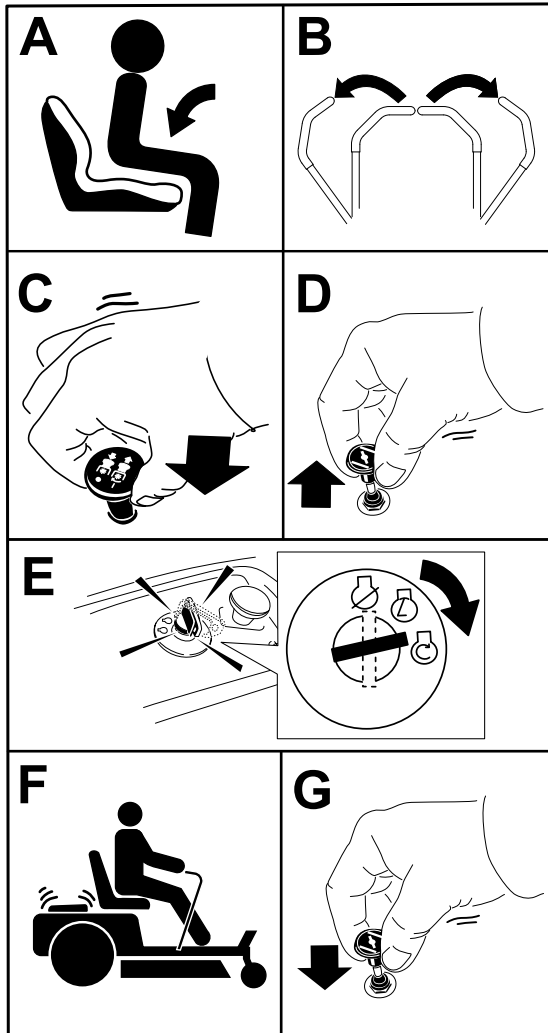

Figure 18
1. Disengage the blades by moving the blade-control switch to the OFF position (Figure 18).